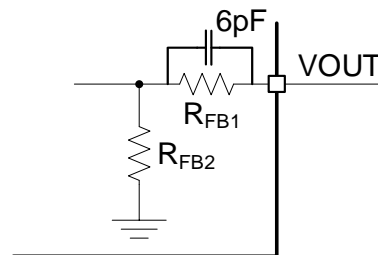

Figure 7: Feedback Divider Network (Fixed Output Version)
The feedback (FB) resistor divider is integrated internally (see Figure 7). Connect the V_{OUT} pin directly to the output.